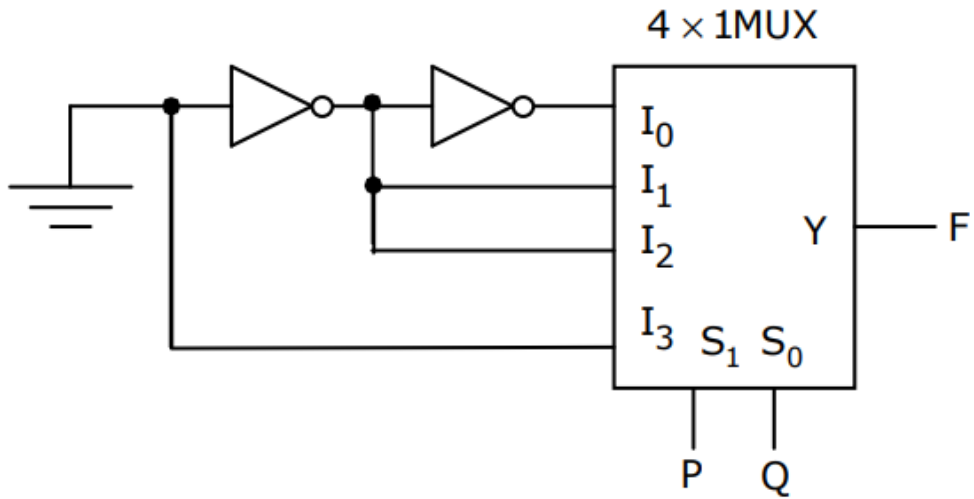

Figure 3.6:
19. Find the logic function implemented by the circuit given below in Fig. 3.6 (GATE EC 2011)